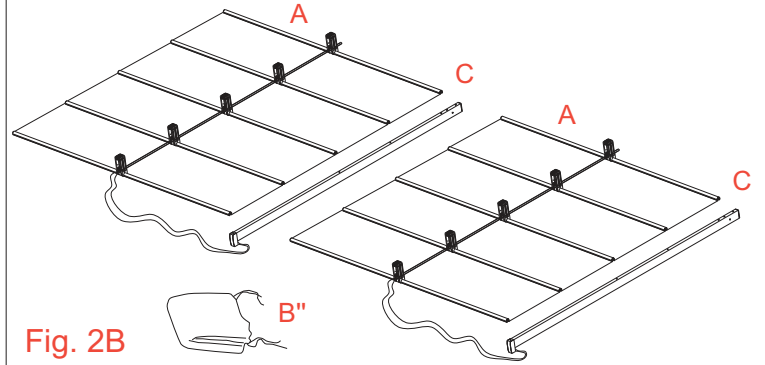

Fig. 2B
(Fig. 2B) Nr 2 **sliding canopies (A)** with the **crossbar (C)** and **protection cover (B')**